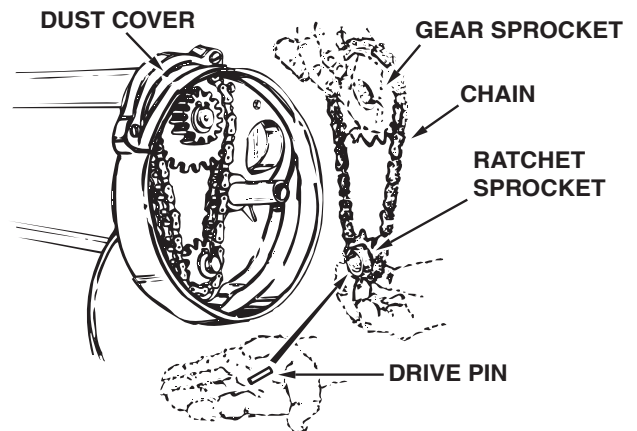

FIGURE 24
- Remove the chain and both sprockets, holding them in position and sliding them off both of the shafts. (Look for the drive pin, which may fall out of the brush shaft when the ratchet sprocket is removed.) See figure 24.